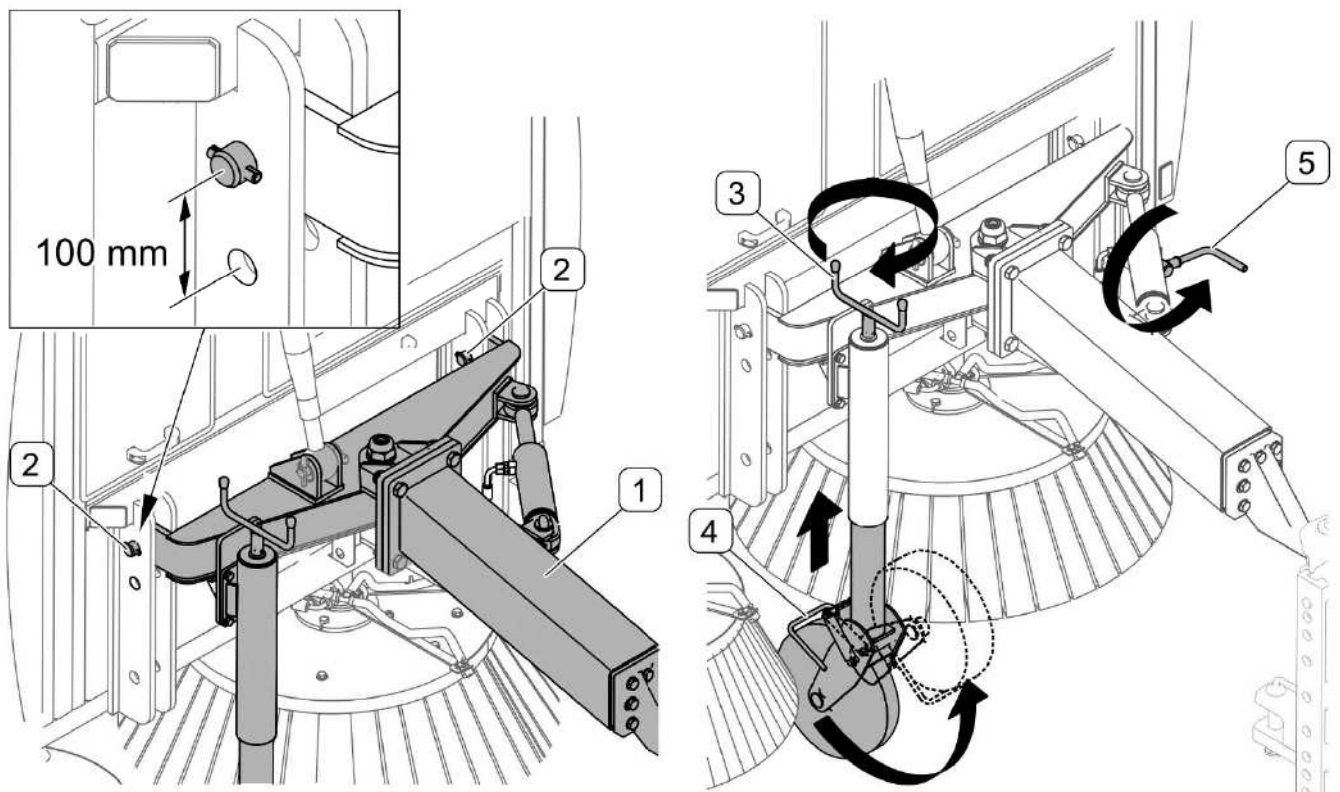

FIG. 4.1 Connecting sweeper hitch to tractor
Sweeper is equipped with height adjustable hitch with drawbar. In order to change the height of sweeper drawbar, determine the height of hitch position in the frame's openings taking into account position of the tractor hitch and possibility of its adjustment as well as possibility of PTO shaft connection. If necessary, remove bolts (1) and change the mounting hole to the lower or higher one (FIG. 4.1)